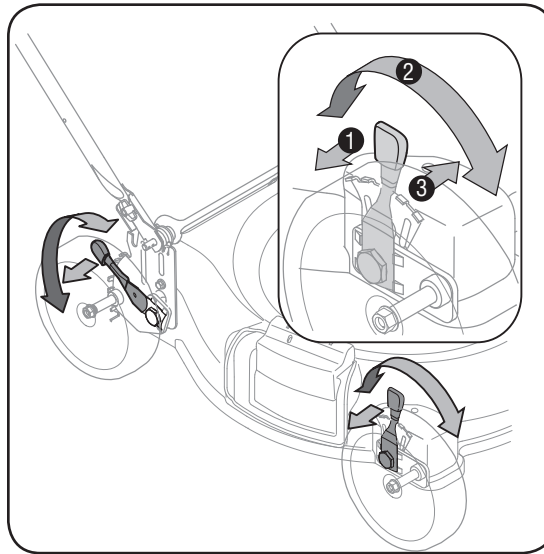

Figure 3-5
5. Each wheel has a height adjustment lever to change the cutting height of the mower. To change the height of cut, squeeze adjuster lever toward the wheel, moving up or down to selected height. See Figure 3-5.